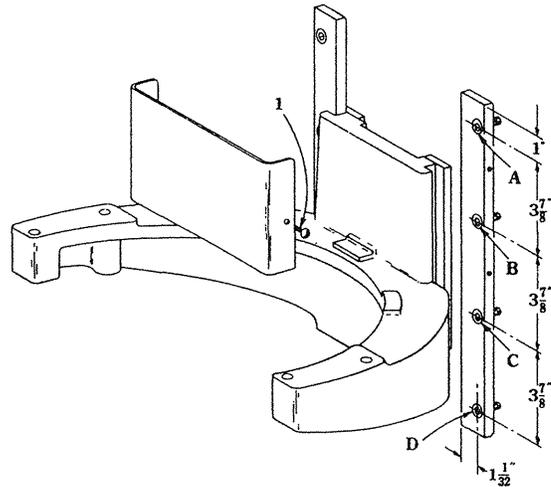

Fig. 6-2
- B. To remove the bowl support it is only necessary to loosen the left hand gib. Loosen four screws. (On new units paint covering the screw heads will need broken). Figure 6-2 gives dimensions to help locate screws.